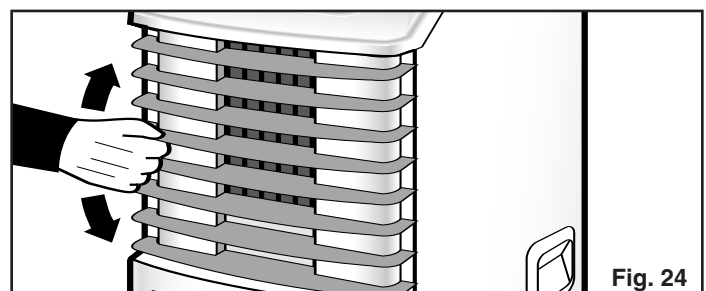

Fig. 24
- 5) To adjust "air flow" direction, (up / down only) adjust any one of the **Horizontal Louver Blades (excluding the top or bottom louver)** and the remaining louvers will automatically adjust to the same position. *Fig. 24*.